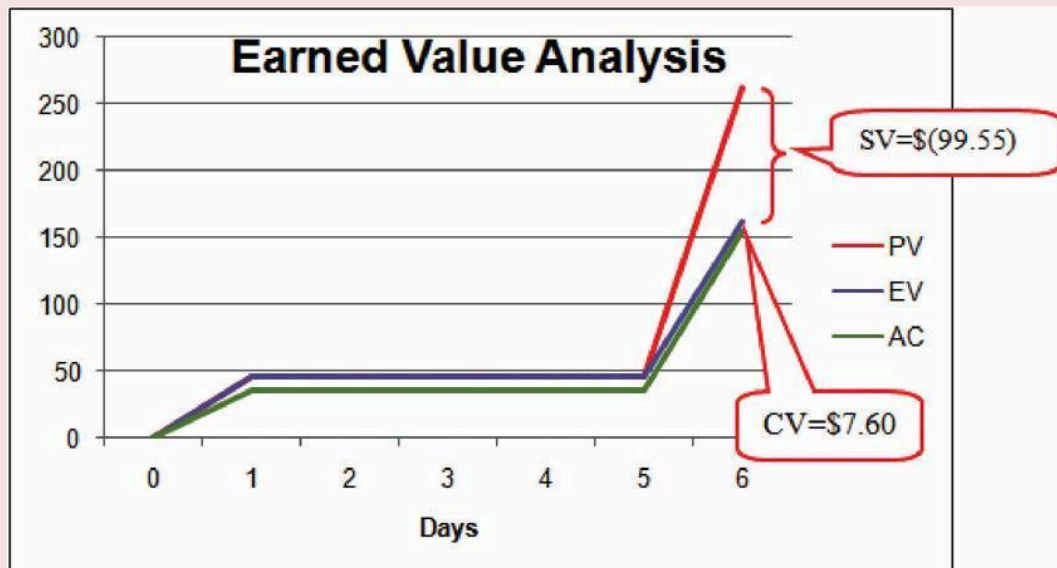

Figure 11.7 Schedule Variance and Cost Variance
The cost variance of positive \$7.60 and the CPI value of 1.05 tell John that he is getting more value for his money than planned for the tasks scheduled by day six. The schedule variance (SV) of negative \$99.55 and the schedule performance index (SPI) of 0.62 tell him that he is behind schedule in adding value to the project (Figure 11.7).